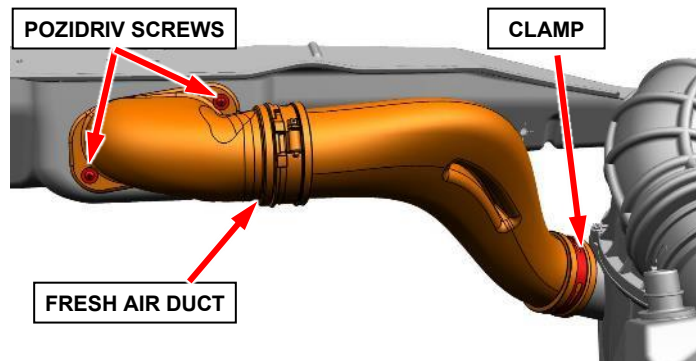

Figure 11 – Fresh Air Duct
6. Remove the two Pozidriv screws securing the fresh air duct to the upper radiator core support (Figure 11).
7. Loosen the clamp securing the fresh air duct to the air cleaner housing (Figure 11).
8. Remove the fresh air supply duct from the vehicle (Figure 11).
27. Position the fresh air duct to the vehicle (Figure 11).
28. Install the two Pozidriv screws securing the fresh air duct to the upper radiator core support, tighten securely (Figure 11).
29. Tighten the clamp securing the fresh air duct to the air cleaner housing, tighten to 5 N·m (44 in. lbs.) (Figure 11).